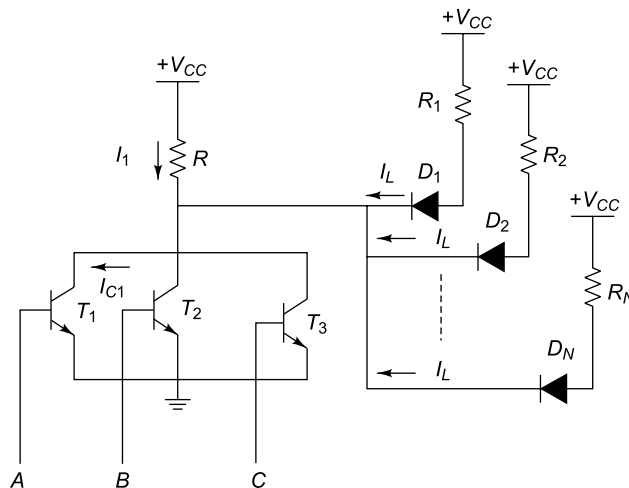

Fig. 6.46 Circuit of Ex. 6.27
6.27 Determine the fan out of the DTL circuit as shown in Fig. 6.46.